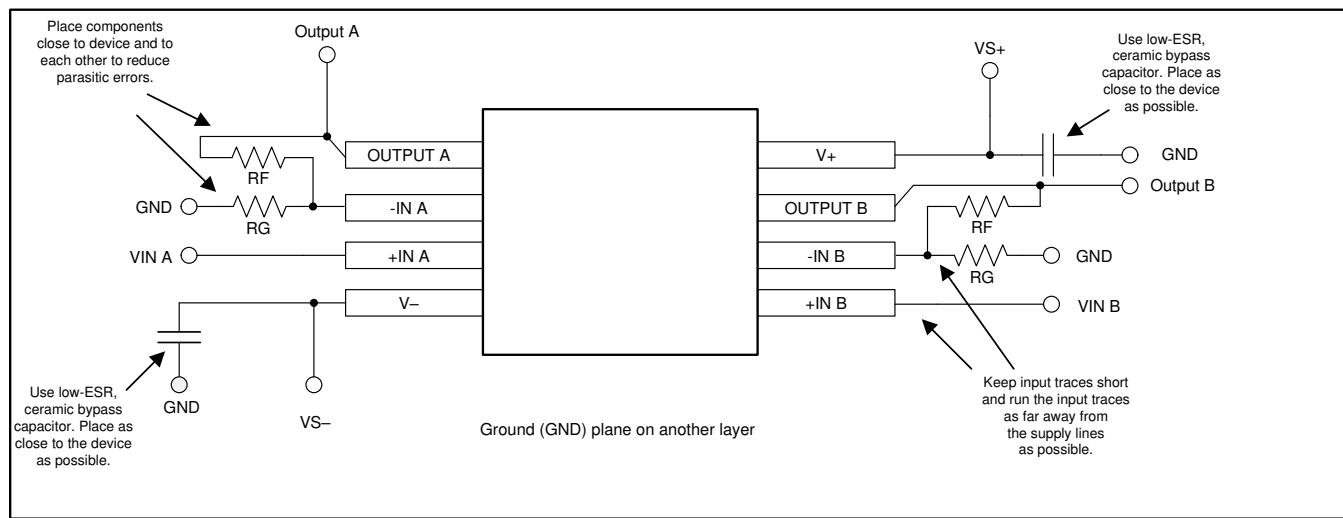

图 50. Operational Amplifier Board Layout for Noninverting Configuration
- Place the external components as close to the device as possible. As shown in 图 50, keeping RF and RG close to the inverting input minimizes parasitic capacitance.